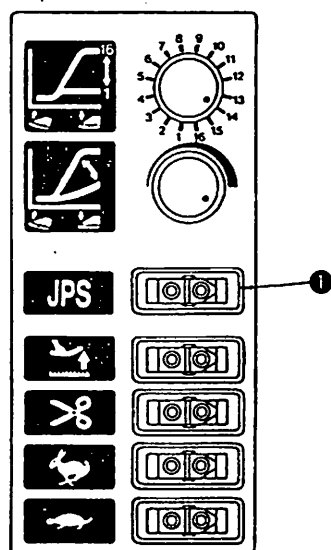

Fig. 4-30
When a cable is connected to connector ❶ in Fig. 4-30, either the (1) production control system function or the (2) upper stop function can be operated. To operate these functions it is necessary to reconnect the connectors on the rear of the front cover. These functions are explained below.